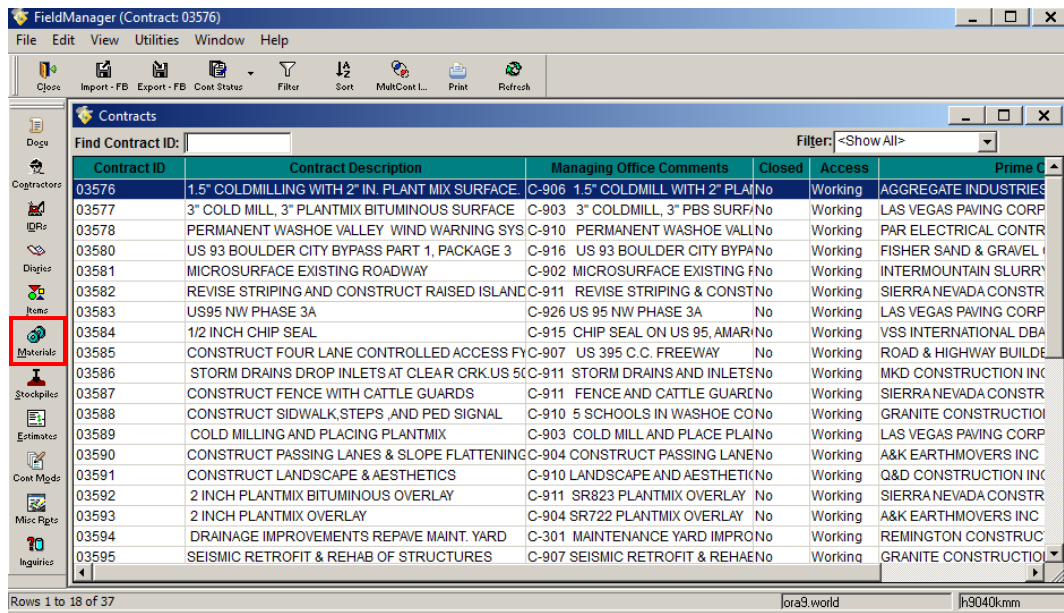
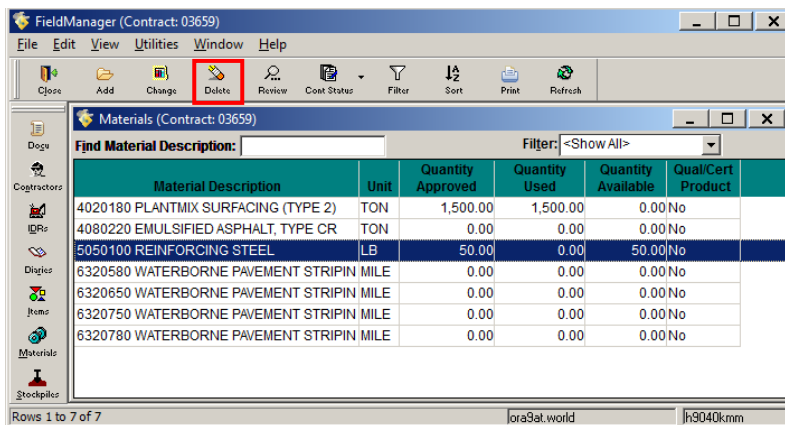

Figure 6-23. FieldManager Contracts List Window
Figure 6-24. Materials List Window
1. Select the contract in the Contracts list window and click **Materials** on the Application Toolbar (Figure 6-23). The Materials list window opens (Figure 6-24).